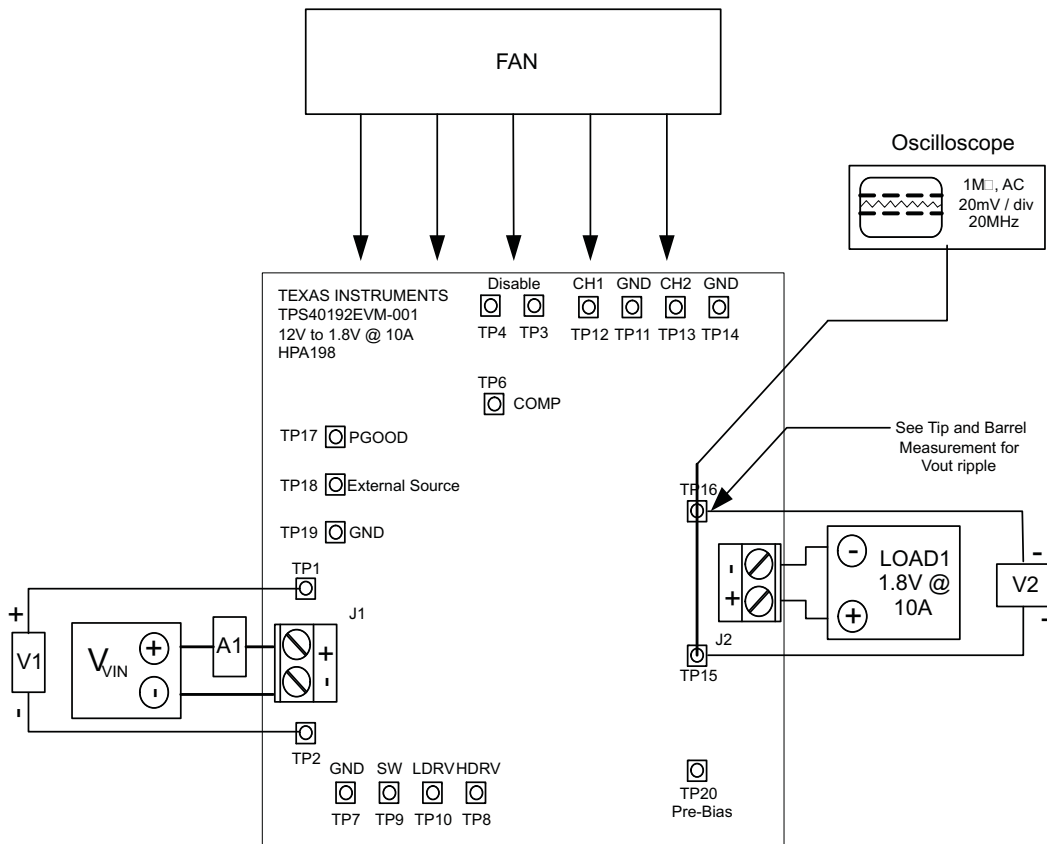

Figure 1. TPS40192EVM-001 Recommended Test Setup
The input voltage source (V_{IN}) should be a 0- to 15-V variable DC source capable of 5 Adc. Connect V_{IN} to J1 as shown in Figure 1.
Shown in Figure 1 is the basic test setup recommended to evaluate the TPS40192EVM-001. Note that although the return for J1 and J2 are the same, the connections should remain separate as shown in Figure 1.
2. Prior to connecting the DC input source, V_{IN} , it is advisable to limit the source current from V_{IN} to 5 A maximum. Ensure that V_{IN} is initially set to 0 V and connected as shown in Figure 1.
3. Connect the ammeter A1 (0- to 5-A range) between V_{IN} and J1 as shown in Figure 1.
4. Connect voltmeter V1 to TP1 and TP2 as shown in Figure 1.
5. Connect LOAD1 to J2 as shown in Figure 1. Set LOAD1 to constant-current mode to sink 0 Adc before V_{IN} is applied.
6. Connect voltmeter, V2 across TP15 and TP16 as shown in Figure 1.
7. Place fan as shown in Figure 1 and turn on, ensuring that air is flowing across the EVM.